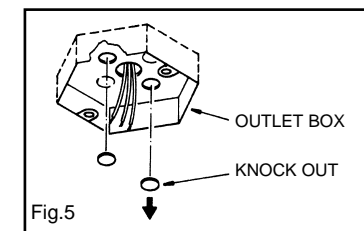

Fig.5
**Step 1.** Remove two knock-outs from the outlet box to expose the joist. (Fig. 5)